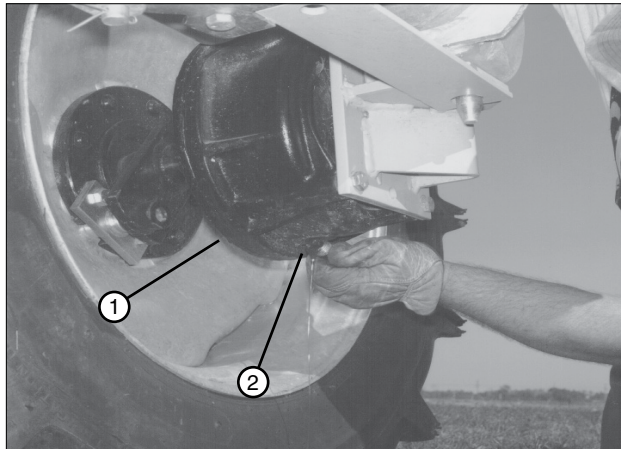

Figure 86-1 1. Wheel Gearbox
3. Remove the drain plug from the bottom of the wheel gearbox and drain the oil into a container. See figure 86-1.